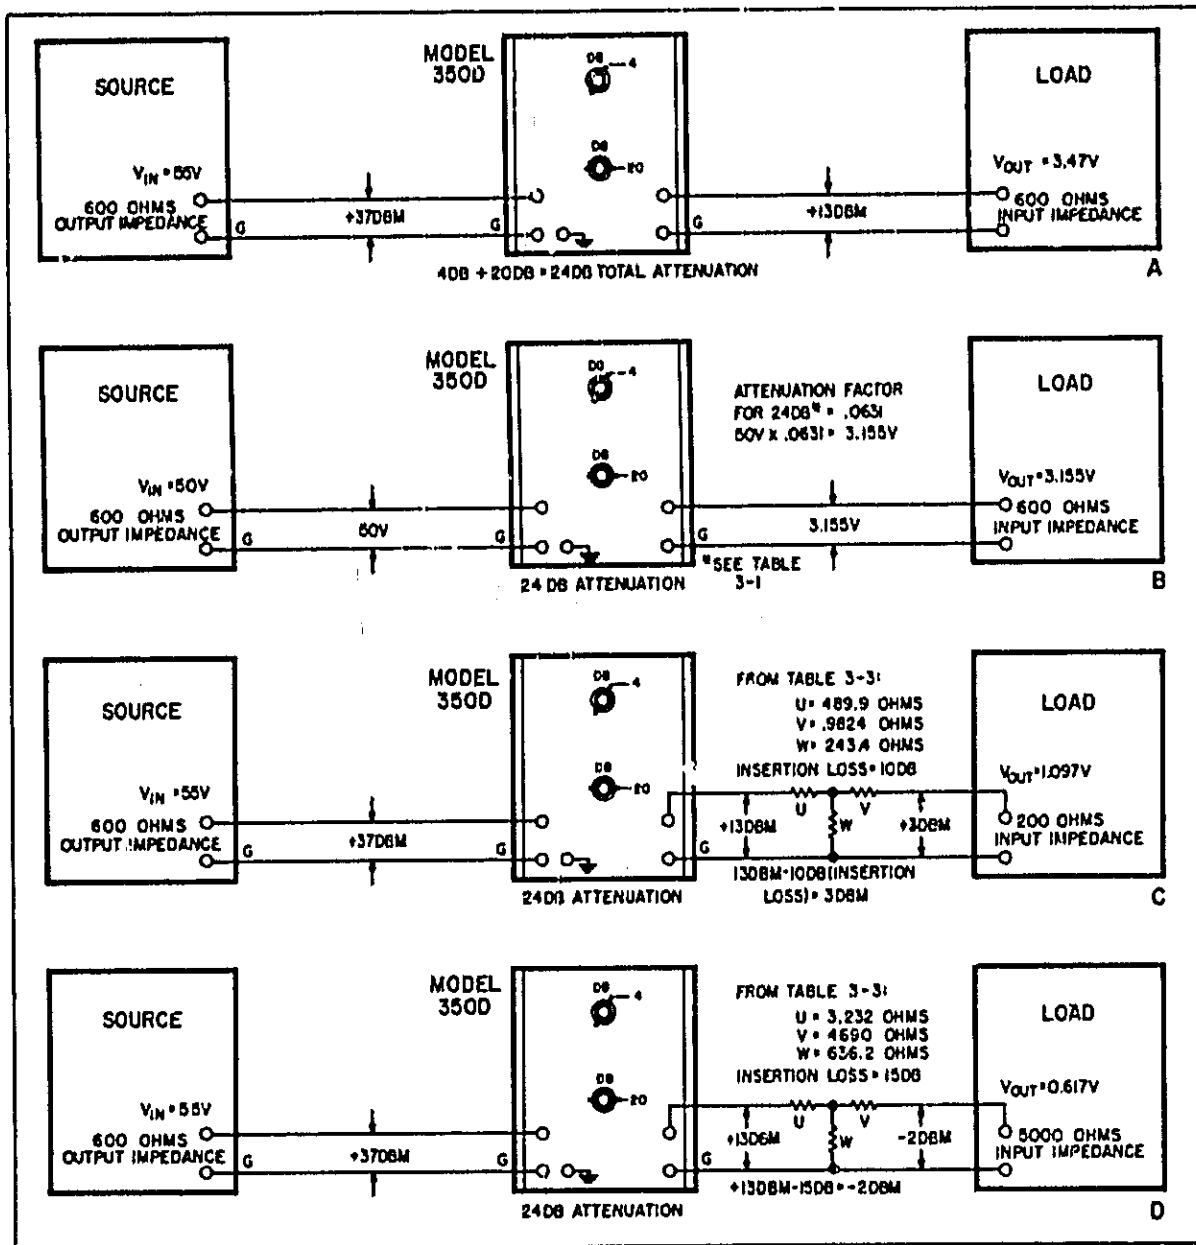

Figure 3-1. Model 350D Typical Applications
3-11. In Figure 3-1 A and B the Model 350D is shown connected to a matching source and load. In both cases the Model 350D is set to attenuate the signal by 24 dB. The attenuation factor for 24 dB from Table 3-1 is 0.0631 and the output voltage, for the conditions shown in Figure 3-1 A, is then:
For Figure 3-1 B the attenuation factor is the same as for Figure 3-1 A and the output voltage is:
4-8. The dB levels given in figure 3-1 are referenced to a milliwatt of power, hence the term dBm. This indicates that the logarithm is taken of a power ratio where 1 milliwatt is the reference. For the 37 dBm shown in figure 3-1D, equations (1) and (2) show that: